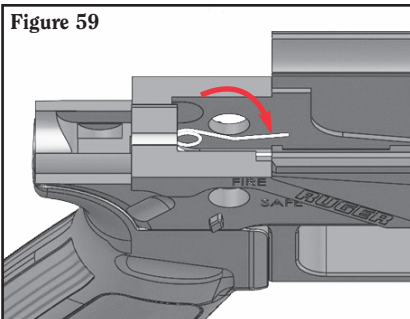
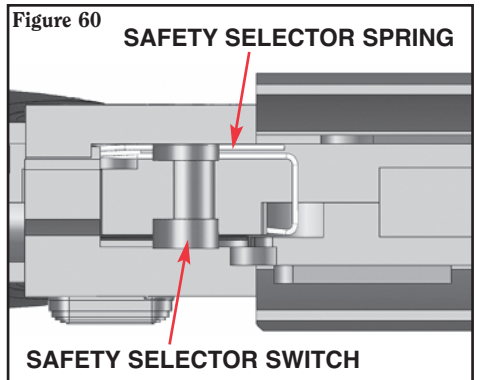

Figure 59
Figure 60
2. Keep the spring depressed below the opening of the selector hole (see Figure 59) as you reinstall the safety selector switch into the other side of the lower receiver all the way through until it bridges across both holes. (See Figure 60.)